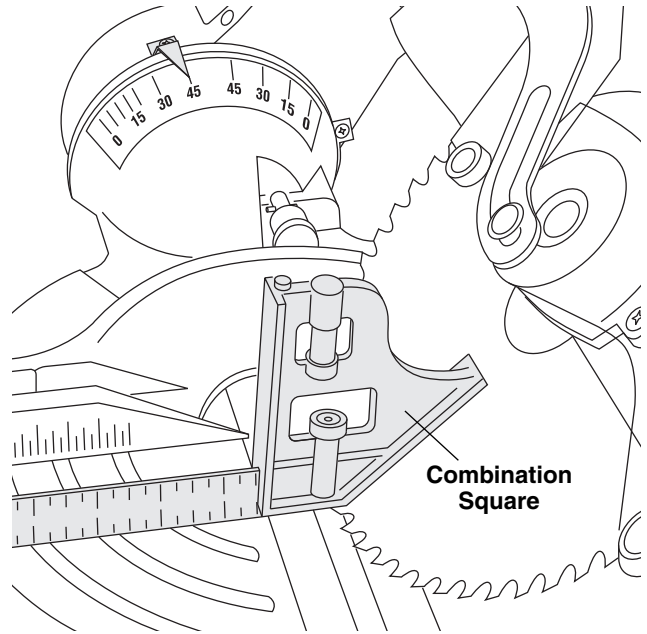

Figure 1. Right 45° Bevel Stop
7. Use a combination square to check blade at the 45° stop. Place the combination square head on the table and press its 45° surface against the blade. If the blade does not contact the full length of the square, (figure 1), follow the calibrating procedure.
3. Position combination square with 45° surface against blade. (Figure 1)